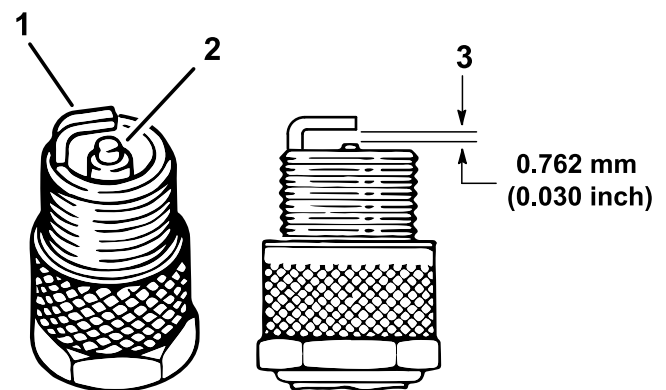

Figure 43
4. Check the condition of the side electrode, center electrode, and center electrode insulator to ensure that there is no damage (Figure 43).
5. Set the air gap between the center and side of the electrodes at 0.76 mm (0.03 inch) as shown in Figure 43.